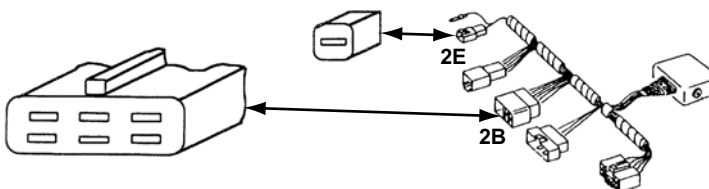

Figure 12-3 6-pin and 1-pin connectors and MULTI-2 adapter
- Use the MULTI-2-B + 2E adapter (Figure 12-3).